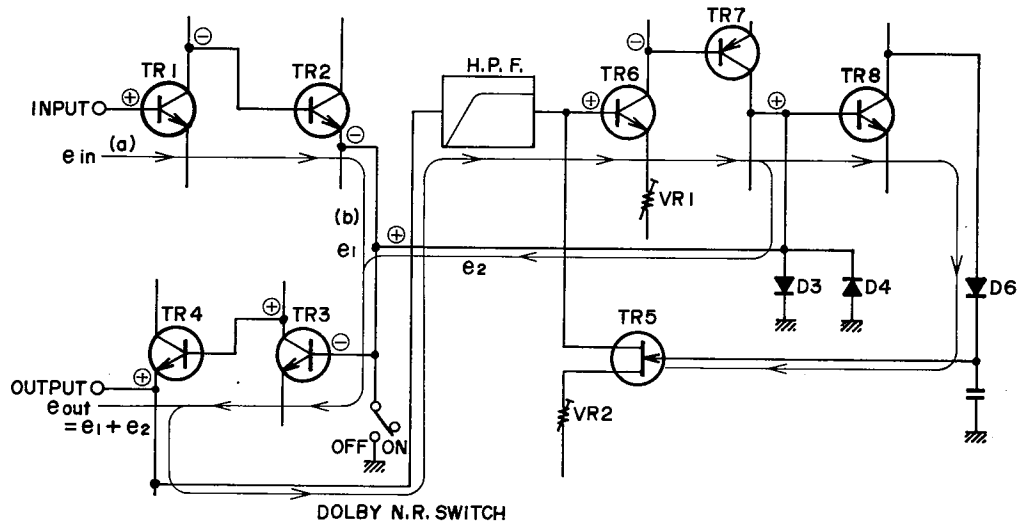

Fig. 33 Playback Dolby NR Diagram
2. PLAYBACK DOLBY NR (Figs. 33, 34)
In Fig. 33, input signal e_{in} passes TR1 ~ TR4 and becomes the output signal. The signal from TR4 passes H.P.F. and is amplified at TR6, TR7. At this time TR5 signal is controlled by the gate D.C. bias of FET TR5, and TR7 signal is varied by the characteristics of diodes D3, D4 and is emitted as e_2 . This output signal e_2 is added as the reverse phase of TR2 output signal and the Dolbyized output signal e_{out} is emitted. Therefore, the procedure is the same as Recording Dolby NR except that the signal is reverse phased (formula (3))